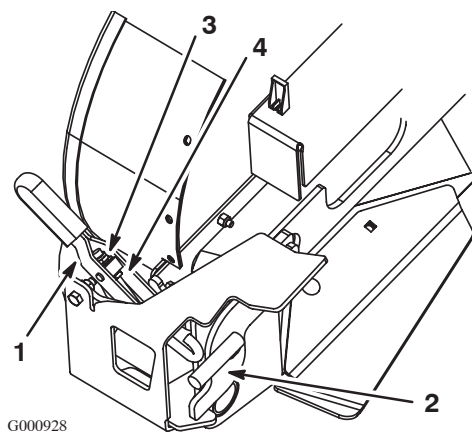

Figure 35
- The blower latch must engage the front peg properly. If it does not, proceed to item 5 of this procedure and lengthen the latch (Fig. 35).
- Adjust the lock nut at the end of the rod hook so the there is no gap between the blower and mower deck and that it engages the front peg properly (Fig. 35).
- Tighten the jam nut up against the block in the handle (Fig. 35).
- Tighten the lock nut at the end of the rod hook (Fig. 35).